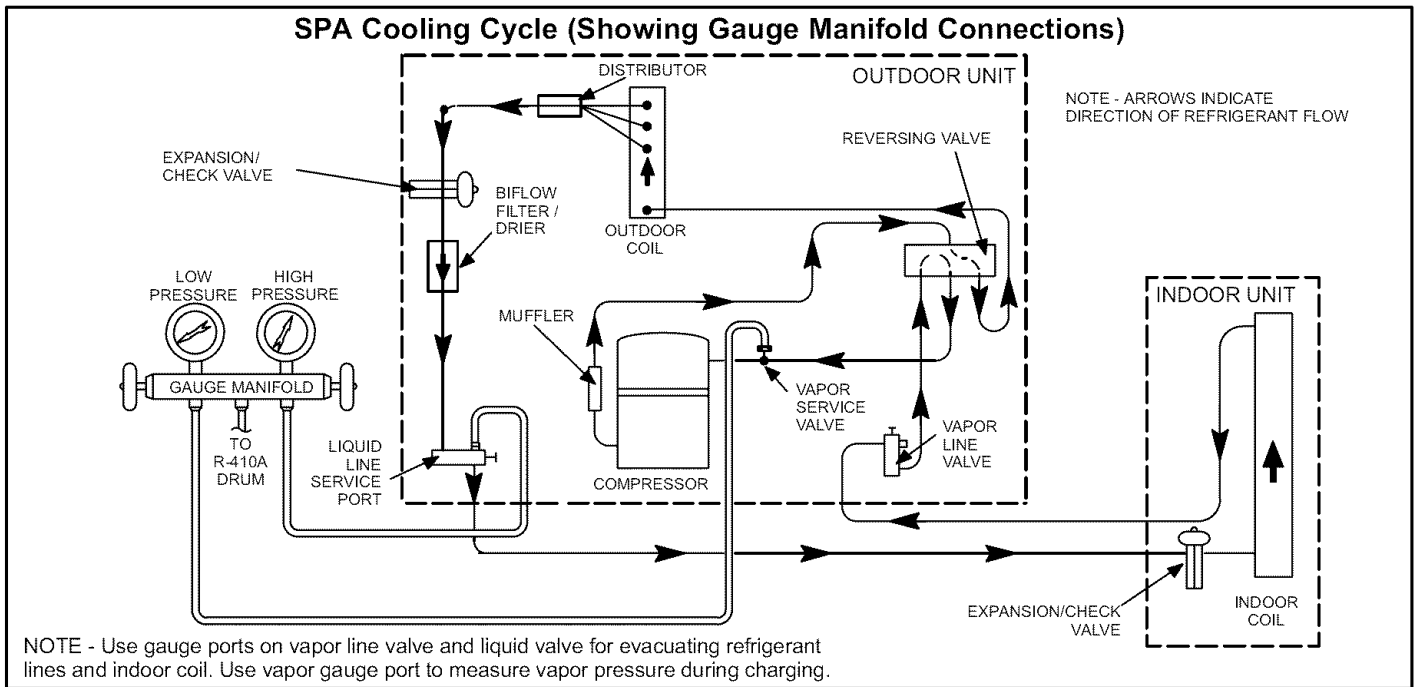

Figure 17
1. Connect manifold gauge set to service valves as shown in figure 17: